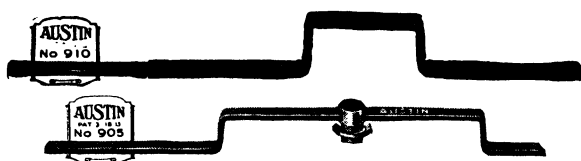

Fig. 10. Universal Box Cleat (Top) and Offset Bar Hanger with Fixture Stud
**Fastening the Box.** The box can be mounted directly on the ceiling or wall by screws passing through holes in the bottom of the box into the ceiling, or wall structure, for exposed work. For concealed work it is necessary to use a support of some kind to secure the box to either the joists or studding. Fig. 10 shows two standard cleat hangers, or offset hangers, made for this purpose. The box is secured to the upper hanger by means of two stove bolts; the entire assembly is then secured to the joists or studdings by nails passing through holes in the ends of the hanger and driven into the joists or studdings. This hanger also can be used with a square box. At an
outlet where a fixture stud is wanted, use the lower hanger shown in Fig. 10, which has a fixture stud. After the locknut is removed from the stud, the stud is inserted through the knockout hole in the bottom of the box, and then the locknut is screwed back onto the stud and set up tight; this assembly is then nailed to the joists or studding, depending on whether it is intended for a ceiling or for a wall outlet. Adjustment for the position of the box can be had by slacking off on the locknut and sliding the box over to the exact position wanted, after which the locknut is set up again.